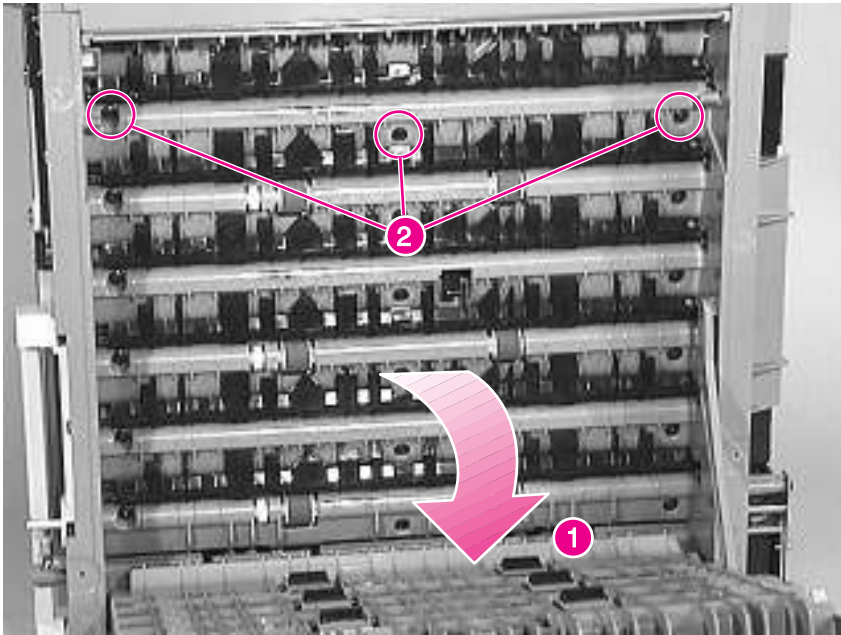

Figure 6-129 Face-down Bins (1 of 3)
- 4 Replace 3 screws (figure 6-129, callout 2).